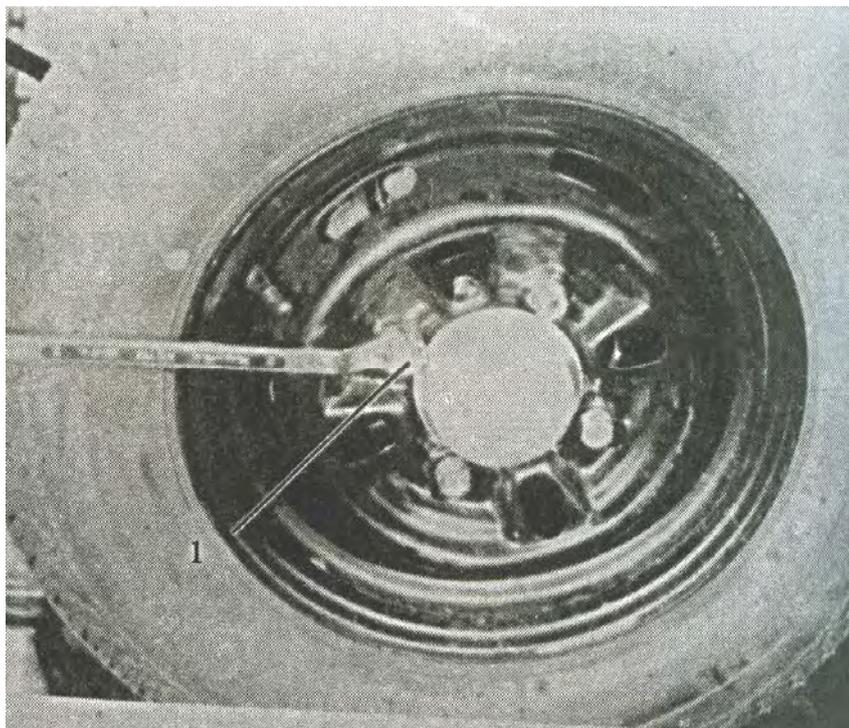

FIG.16-65 1- Wheel nut
- Check length of push rod clevis.(FIG.16-65)